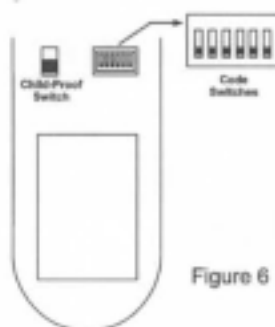

Figure 6
2. Slide the CHILD-PROOF switch to position marked C/P to activate the CHILD-PROOF function. "Child-Proof" will appear on the LCD. See Fig 6.
You can set a private code into your system to prevent accidental operation by another transmitter nearby. See Fig.6.